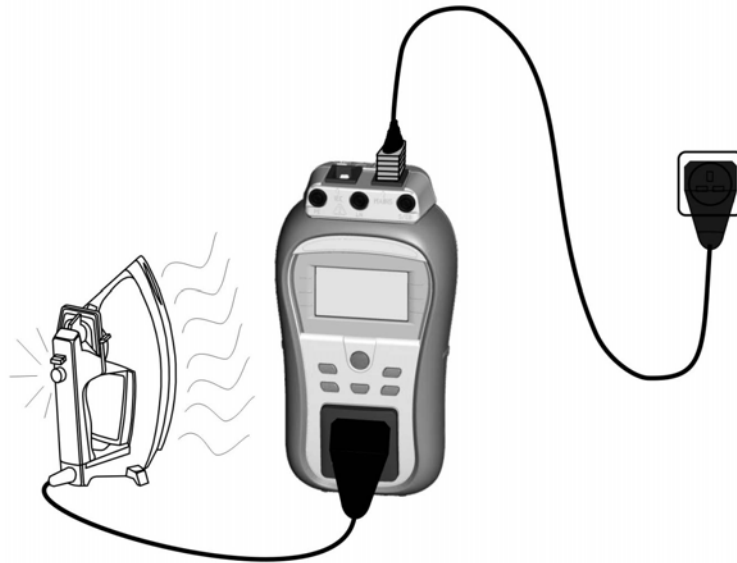

Figure 5.39: Power test
- › Connect device under test to the instrument's test socket and switch it on (see **Figure 5.39**).